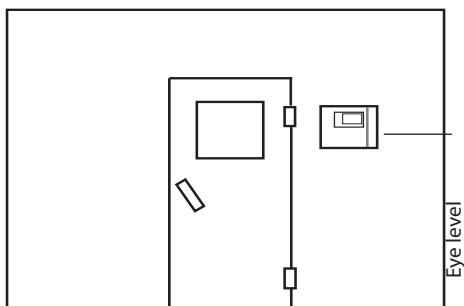

Fig. 3
1. The 3 mm diameter boreholes for the supplied wood screws 4 x 20 mm are drilled according to the dimensions shown in Fig. 3 + 3.1.